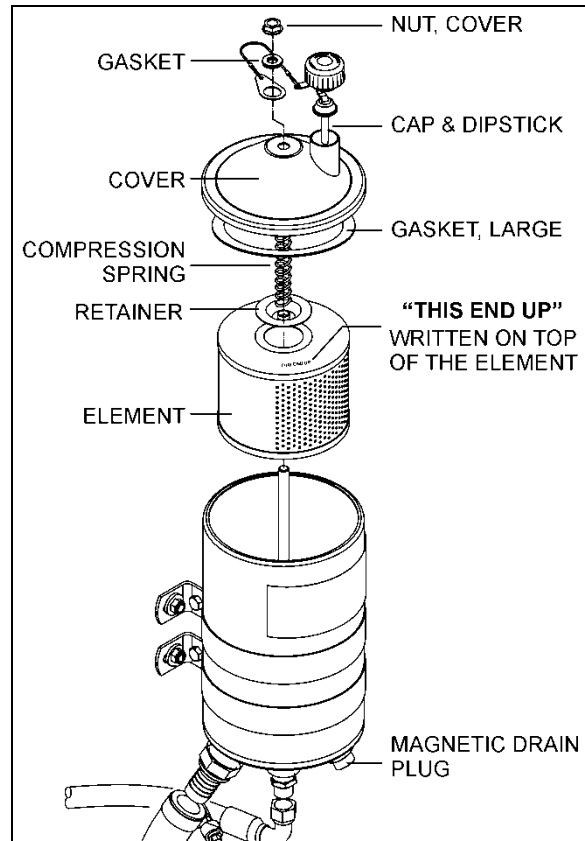

FIGURE 25: POWER STEERING FLUID RESERVOIR
The power steering reservoir is located on R.H. side of engine compartment, on front wall and accessible through the engine compartment R.H. side door (Figure 25).
3. Prior to pulling out the oil dipstick on the power steering fluid reservoir (Figure 25), thoroughly clean the reservoir and its immediate vicinity to protect the fluid from being soiled by impurities.
2. Unscrew and remove the cover nut located on top of the power steering fluid reservoir (Figure 25).